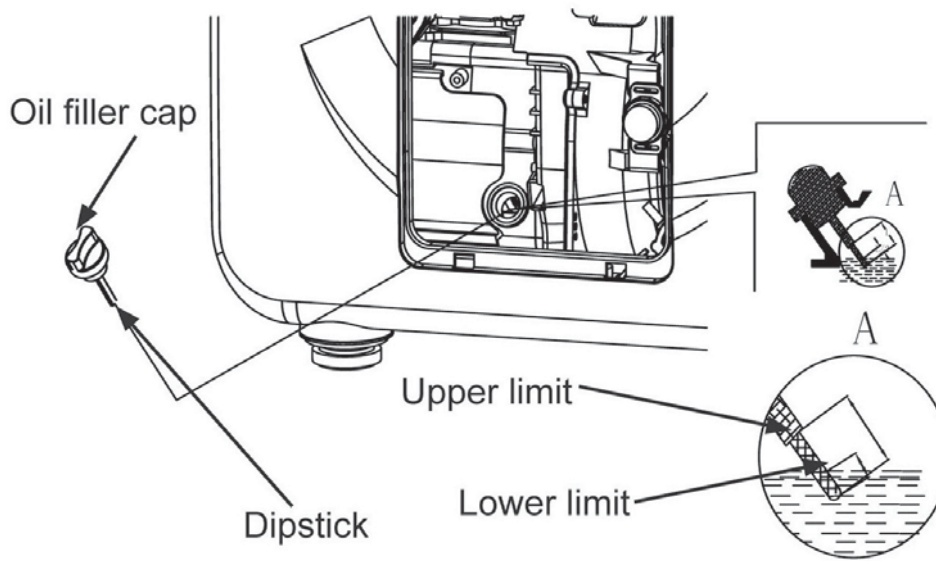

Fig. 5.4
5. With the engine in a level position, add oil to the upper level mark (Refer to Fig. 5.4)